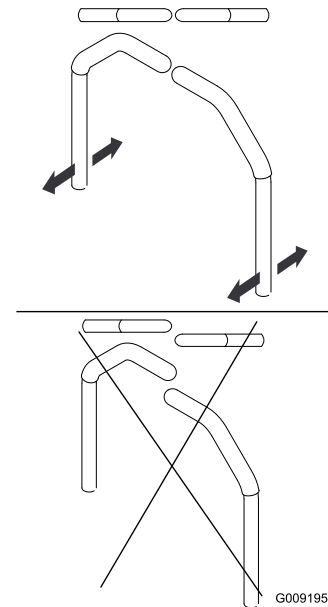

Figure 66
4. Align the levers in the front-to-rear position by bringing the levers together to the NEUTRAL position, slide them until they are aligned, and tighten the bolts (Figure 66).